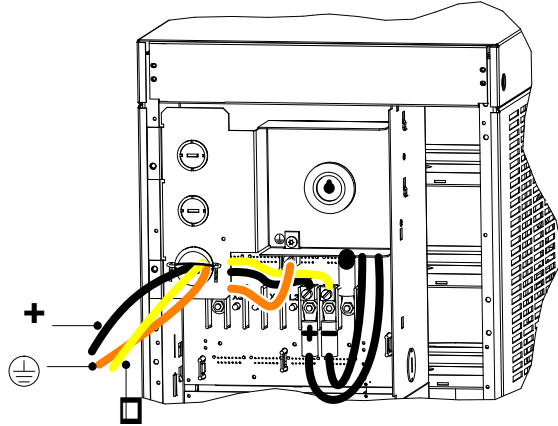

Figure 46. Battery Cable Installed in Battery Cabinet
16. If the battery cable will be installed in flexible or other conduit, pull the conductors through the conduit. Attach the conduit to both the UPS power entrance panel and the battery cabinet entrance panel as shown in Figure 46.
17. Secure the **+**, the **□** and the **⊖** conductors to the proper compression lugs on the battery cabinet backplane as shown in Figure 46. Torque all three compression lugs to 8.5–9.6 Nm (75–85 lb in).